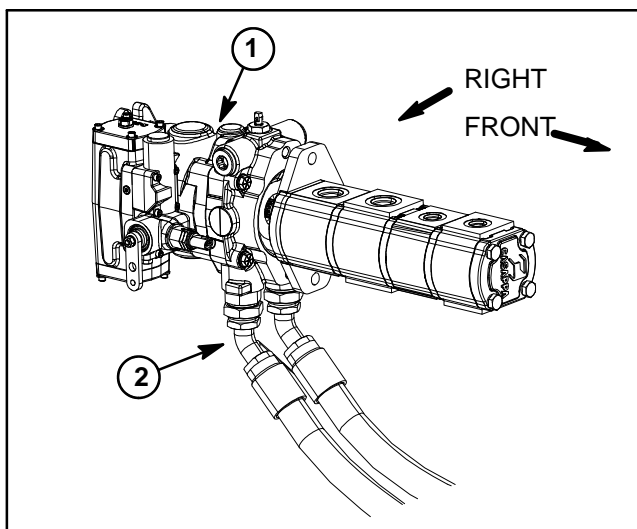

Figure 50
3. Thoroughly clean junction of hydraulic hose and **right** side fitting on bottom of traction pump (Fig. 50). Disconnect hose from right side pump fitting.